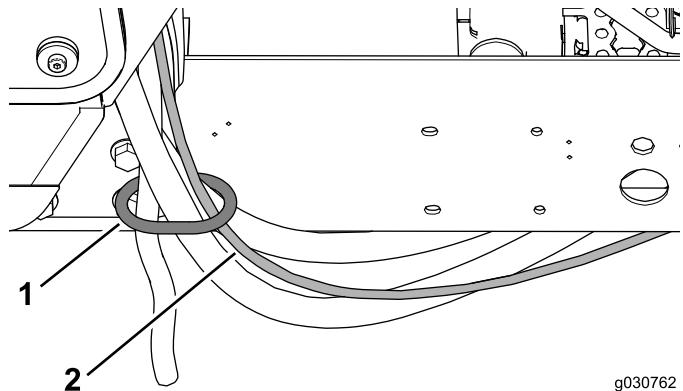

Figure 41
1. Route the washer hose through the hose ring on the rear cab mount (Figure 41).